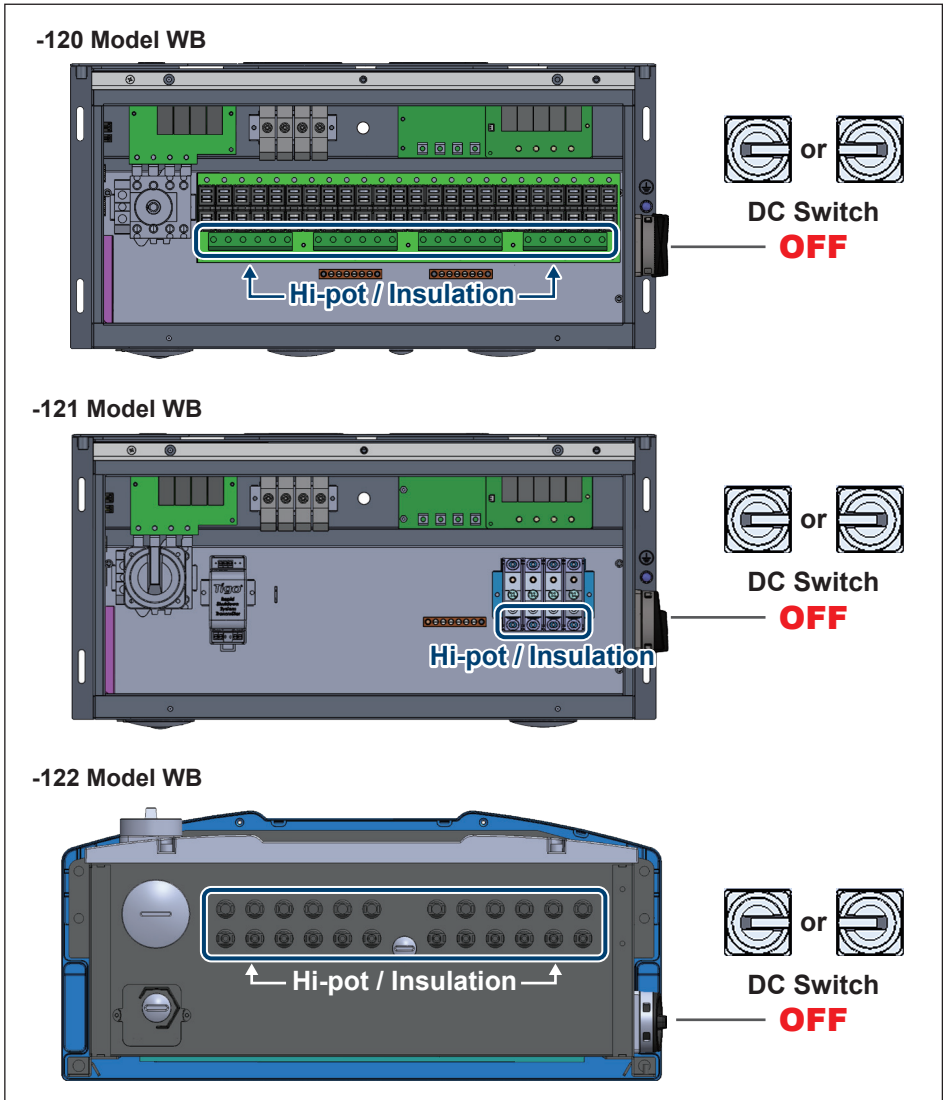

Figure 3-32: Precautions for on-site insulation test
2. Apply one probe to the positions shown in **Figure 3-32**, the other to the ground. It might cause damages to the inverter if probes are applied to inappropriate positions.